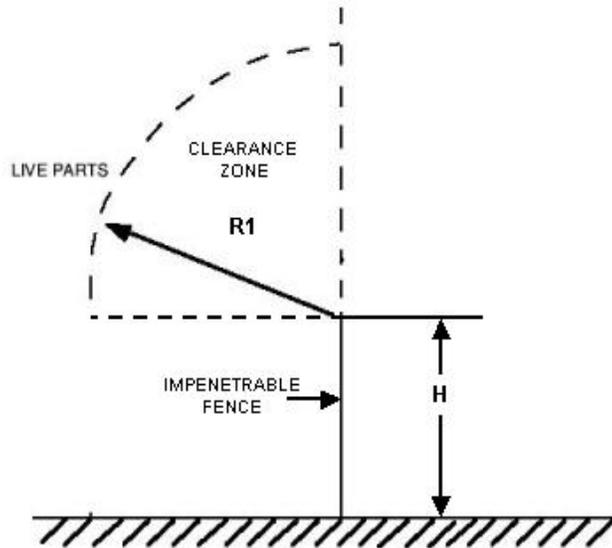

Fig. 110-2
- b. Where an impenetrable barrier is used, such as a fence, partition, or wall with no openings through which sticks or other objects can be inserted, the sum of the values of R1 and H (barrier height) as illustrated in Figure 110-2 shall be equal to or greater than the sum of Dimension (R) as specified in Table 110-1 plus 1.5 m (5.0 ft). The lower 0.6m (2 ft) of any section utilizing an impenetrable barrier, may be constructed of metal chain link fence fabric.
Rule 110: Add Figure 110-2, Safety Clearance to Electric Supply Station Impenetrable Fence, after Figure 110-1.